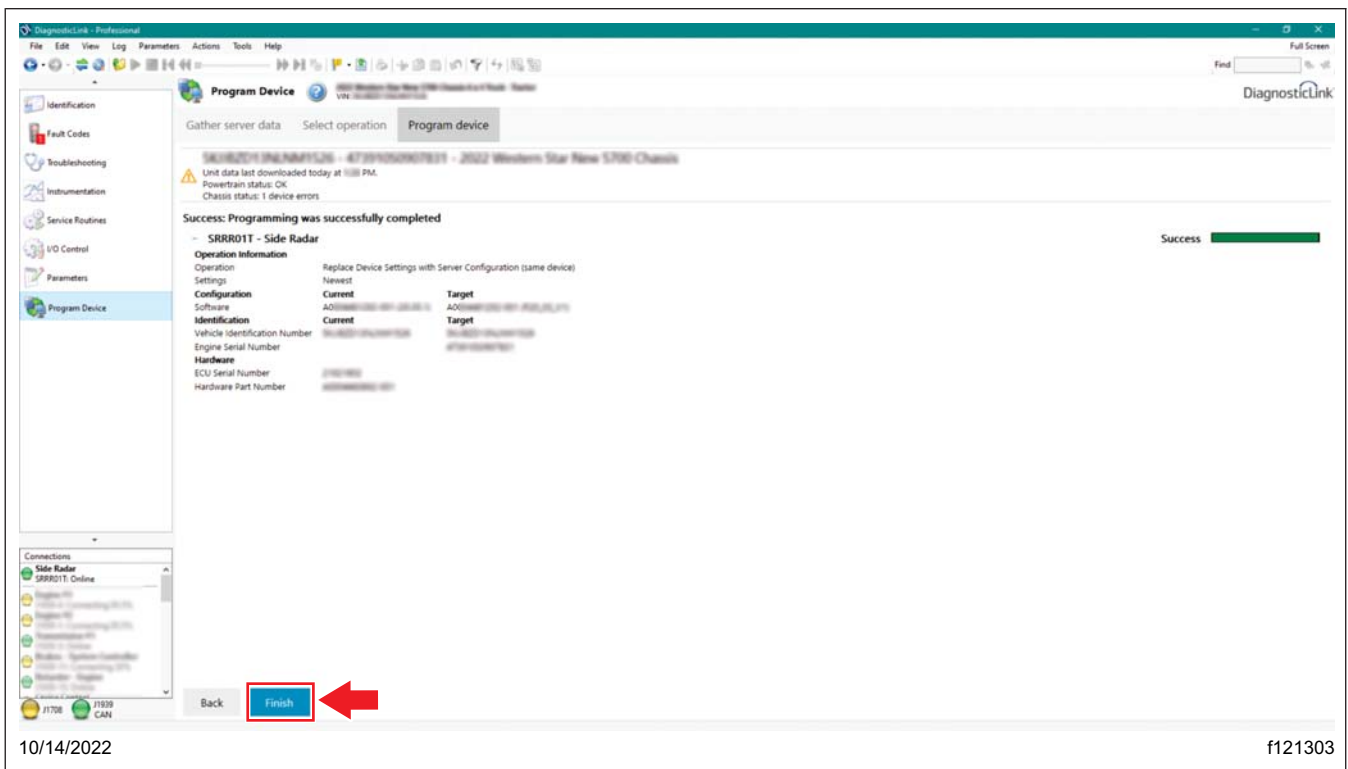

Fig. 20, Flashing Complete
12.5 Once the flashing is successful, select 'Finish.' See Fig. 20.